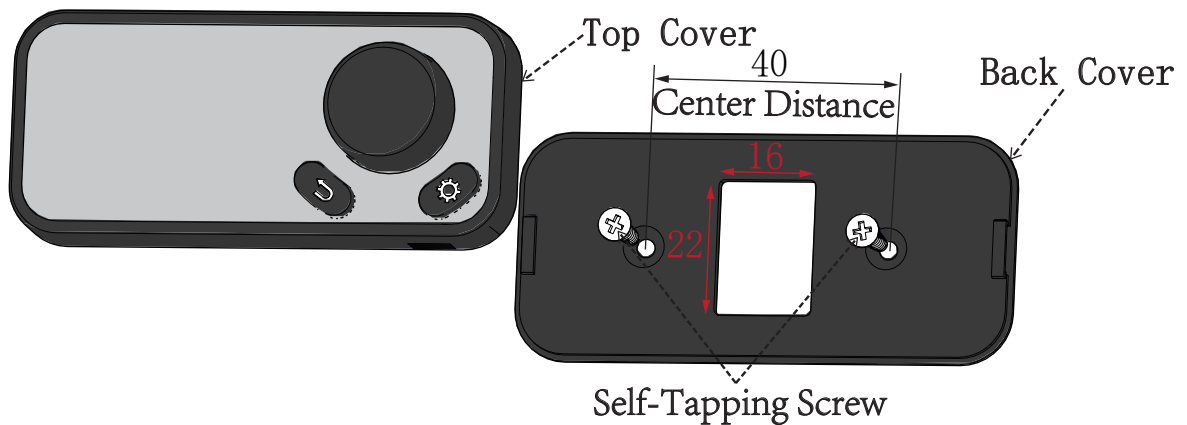
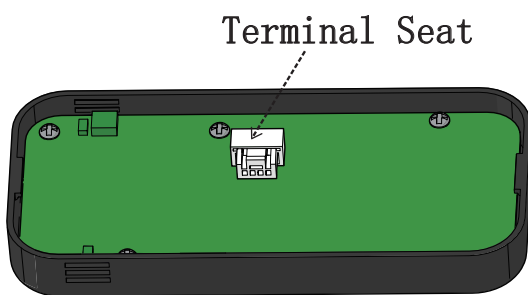

Figure 3
Figure 4
- The opening size of control switch is 16mm × 22mm, refer to "Figure 3"
2. Insert the tapping screw into the mounting surface as shown in Figure 3, and fix the back cover on the mounting surface.
- 3 Insert one end of the control switch lead wire into the PCB board terminal as shown in Figure 4, and the other end through the back cover and installation opening as shown in Figure 3.